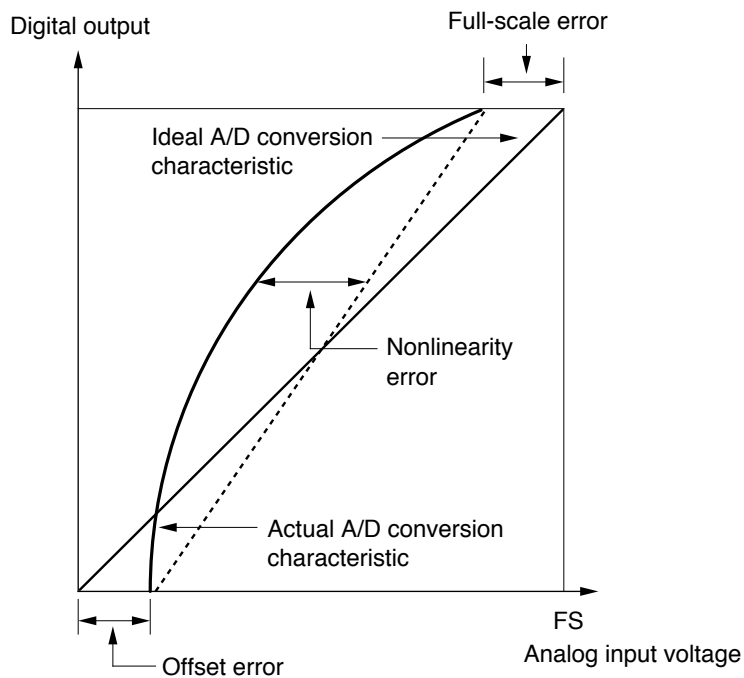

Figure 13-12 A/D Converter Accuracy Definitions (2)
(6) A/D Conversion Accuracy Definitions: A/D conversion accuracy in the H8/538F is defined as follows:
- Offset error: deviation from ideal A/D conversion characteristic of analog input voltage required to raise digital output from minimum voltage value 0000000000 to 0000000001 (figure 13-12); note that this does not include quantization error
- Full-scale error: deviation from ideal A/D conversion characteristic of analog input voltage required to raise digital output from 1111111110 to 1111111111 (figure 13-12); note that this does not include quantization error